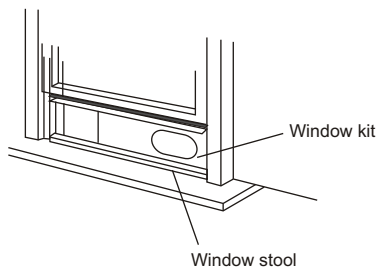

Fig. 10
3. Cut the foam seal(adhesive type) to the proper length and attach it on the top of the window. Shown as in Fig. 10